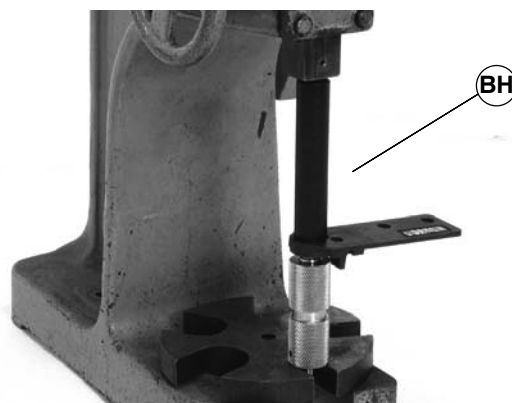

Figure 41
1. With bearing installed in head plate, use a bearing installation tool, (BH of Figure 41), part number 450292, to press the bearing onto the drive shaft.